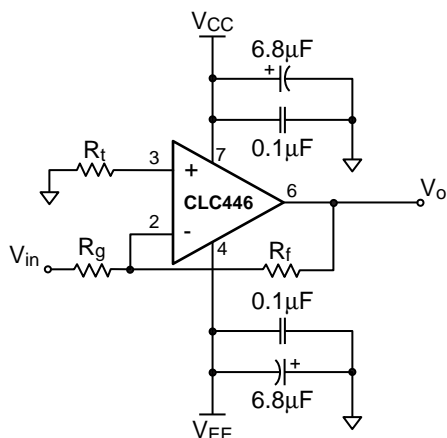

Figure 2: Inverting Gain
The inverting DC voltage gain for the configuration shown in Figure 2 is $A_v = -\frac{R_f}{R_g}$.
- Place a 50 to 200Ω resistor between the non-inverting pin and ground (see R_t in Figure 2)